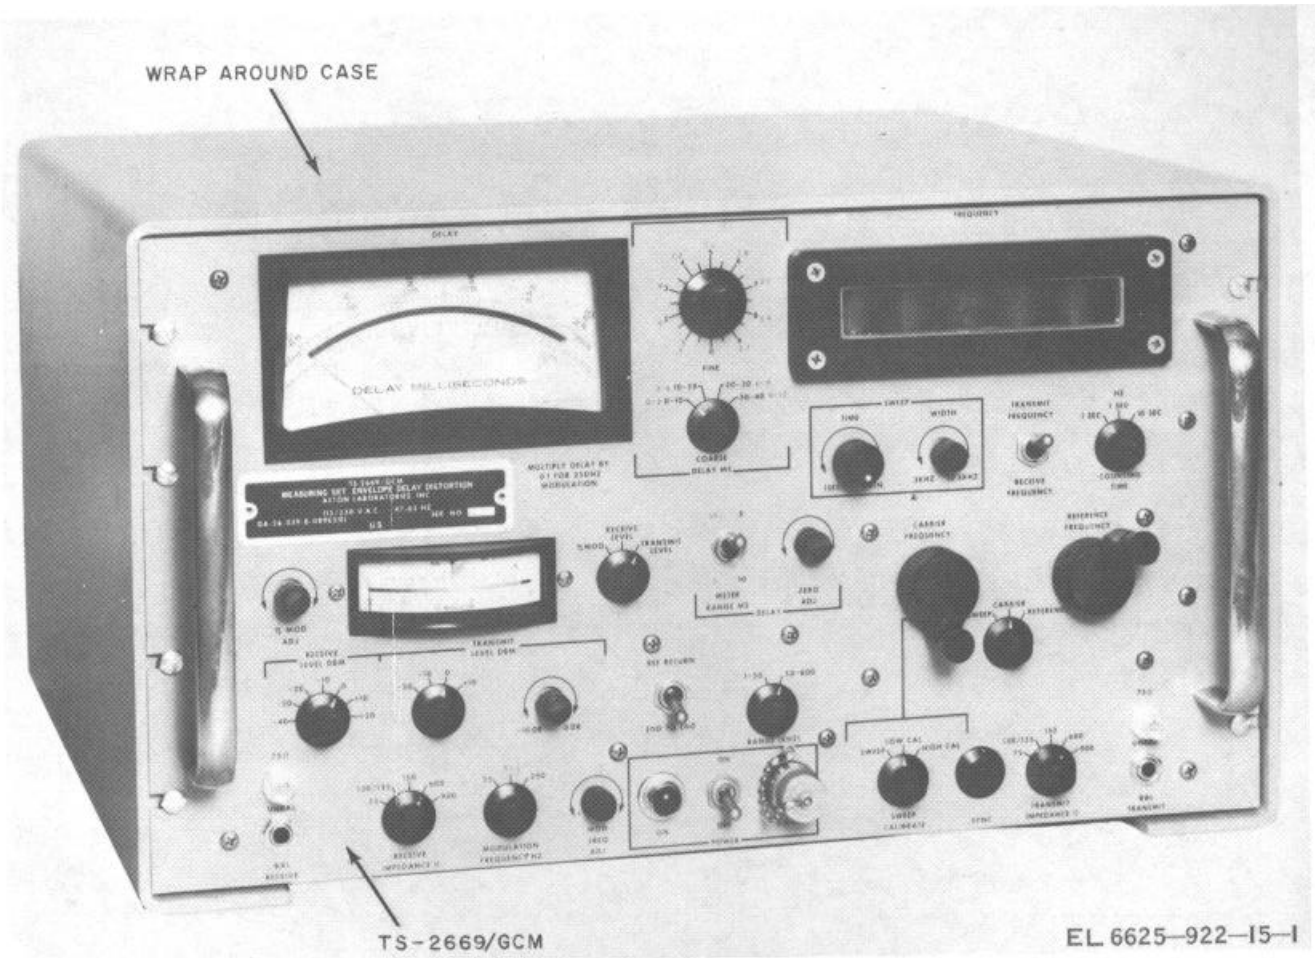

Figure 1-1. Measuring Set, Envelope Delay Distortion TS-2669/GCM.
a. This manual describes Measuring Set, Envelope Delay Distortion TS-2669/GCM (fig. 1-1), its installation, operation, functioning, repair, and adjustment. It includes instructions for troubleshooting, testing, aligning, and repairing the equipment.